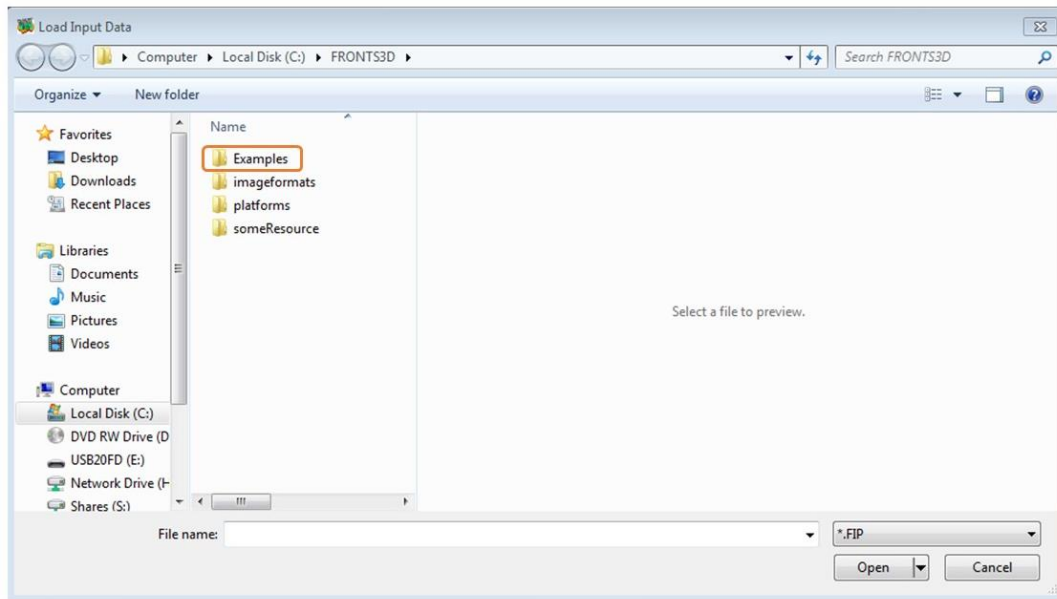

Figure 2. Select Case Folder
3. To load a new project, click File → Open Project or click Open Project button on the main screen. Then click on the Examples folder to select the case you want and finally click on the case file. All the suffix of data file should be .fip in order to run the FRONTS3D interface. See **Figs. 2, 3 & 4** for sequence to load a new project.